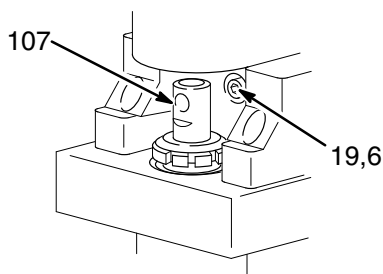

Fig. 24
2. Remove the pressure control (64). See page 27.
3. Turn the displacement pump rod (107) so the pin hole aligns with the bottom drive housing screw (19). See Fig. 24. Remove the three drive housing screws and lockwashers (19,6). Also see Fig. 25 on page 26.